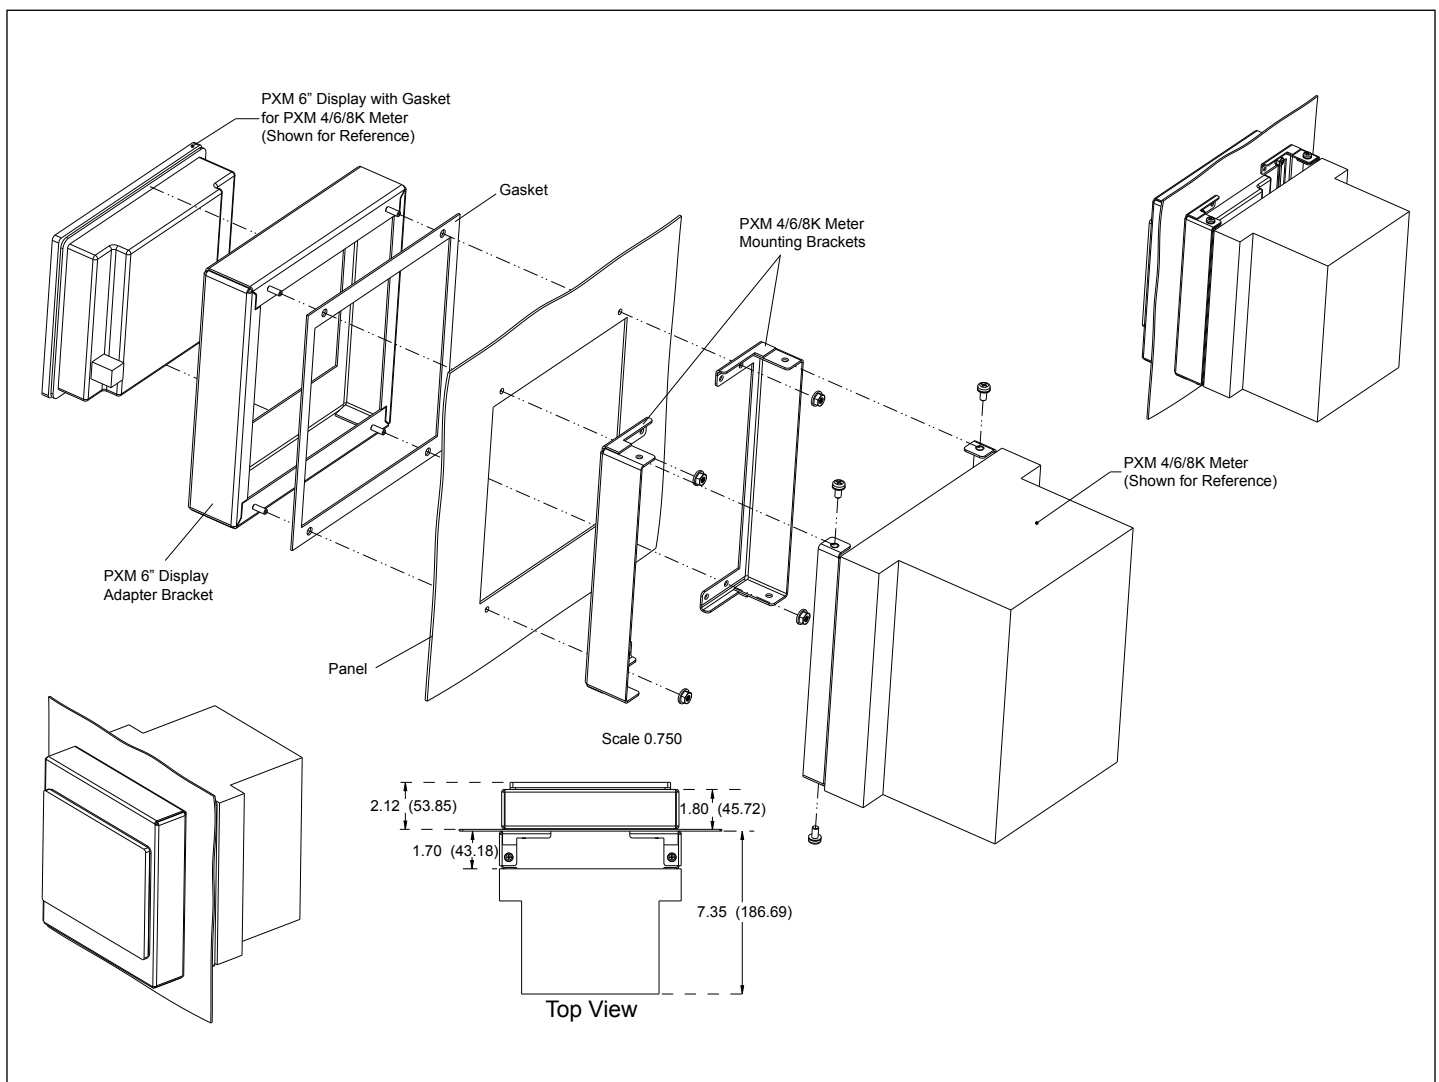

Figure 1. Back to Back Meter to Display Projection Mount Adapter Kit Assembly Details.
Refer to **Figure 1** for assembly details on the Projection Mount Adapter kit.
The PXM 6" display and the PXM 4/6/8K meter are shown in **Figure 1** for reference only. Mounting hardware required for assembly is included with the kit. The design of the Project Mount Adapter kit provides space between the panel surface and the meter base to route the PXM 6" display control power and communications cables.
Step 1. Install the gasket over the studs on the back of the PXM 6" display adapter bracket (see **Figure 1**).
Step 3. Working from the inside of the panel, align the holes in one of the PXM 4/6/8K meter mounting brackets with appropriate PXM 6" display adapter bracket mounting studs (see **Figure 1**). Secure the meter mounting bracket to the studs of the display adapter bracket using the (2) 0.164-32 (#8-32) nuts supplied.